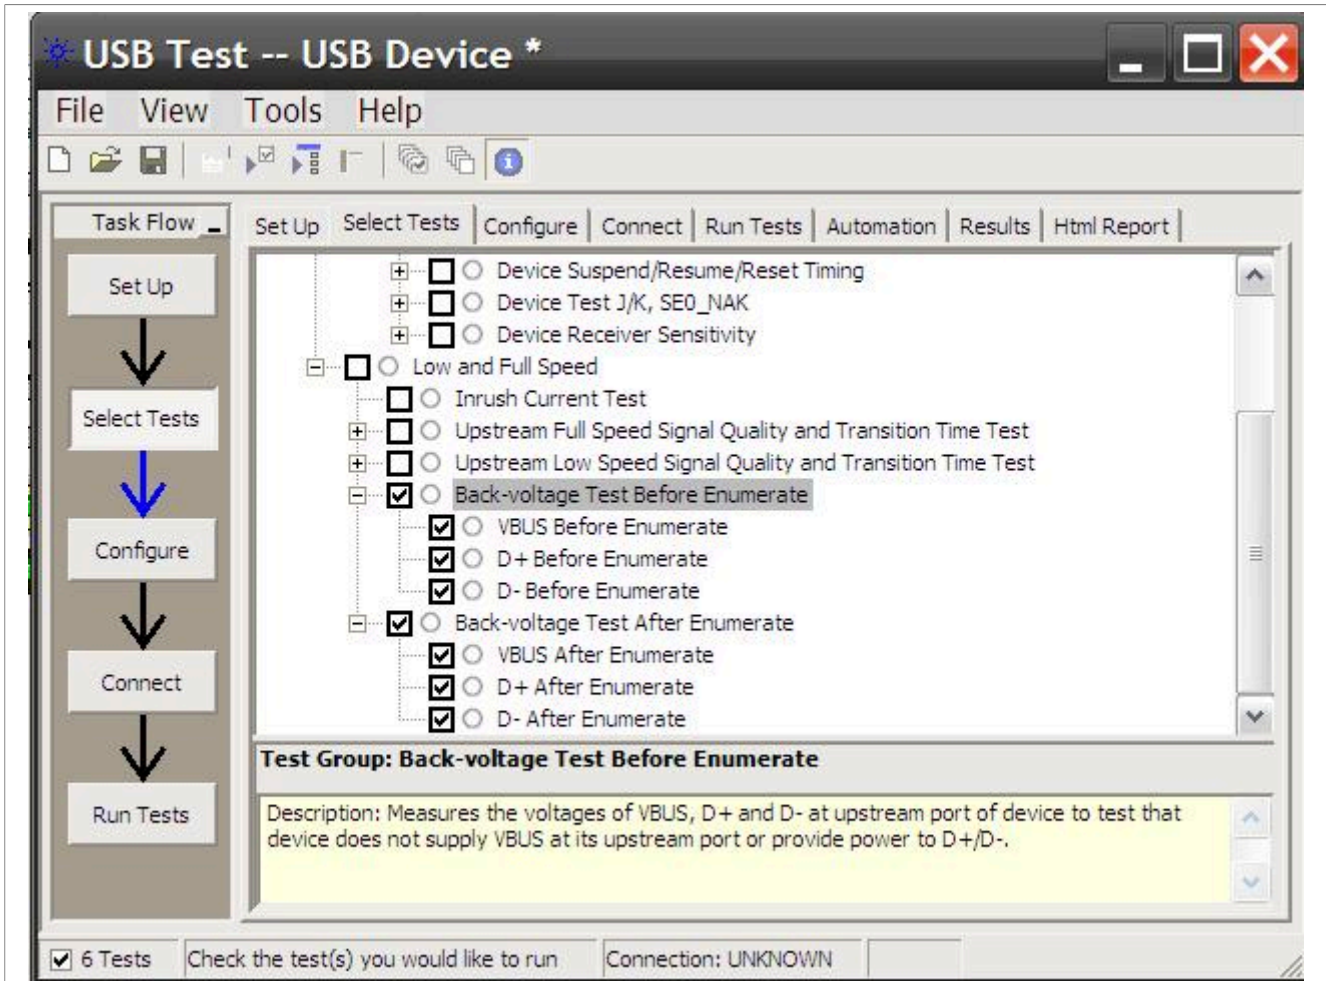

Figure 11. Automated Test Software setting for Back-Voltage Test
1. Select the test items in the USB Automated Test Software on Oscilloscope as shown in Figure 11.